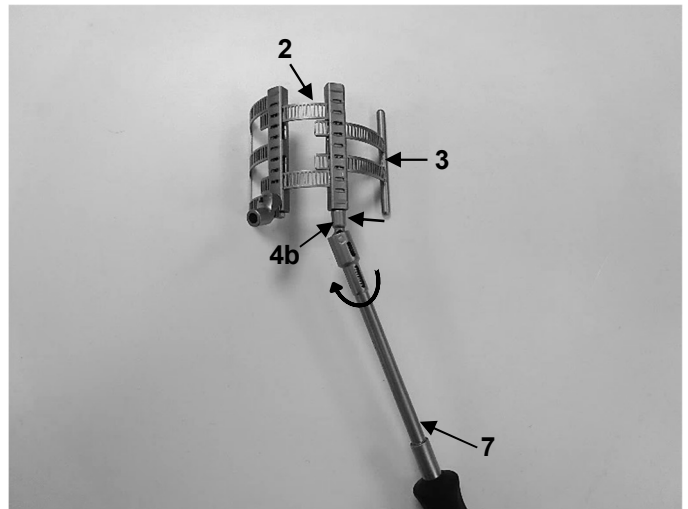

Fig. 15
2. Then insert the secondary element (3) into the primary element (2) and retract using the LMT-4 cardan screwdriver (7). To do this, turn the outer hexagon screw on the cage module of the primary element (4b) counter-clockwise using the LMT-4 cardan screwdriver (7) (Fig. 15).